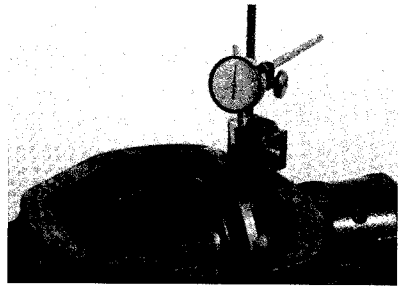

Figure 3-40
| (1) Total amount of space measured without ring gear as shown in step 41, figure 3-40 | Measurement A _____ |
| (1) Total amount of space measured without ring gear as shown in step 41, figure 3-40 | Measurement A .105" (2.67 mm) |